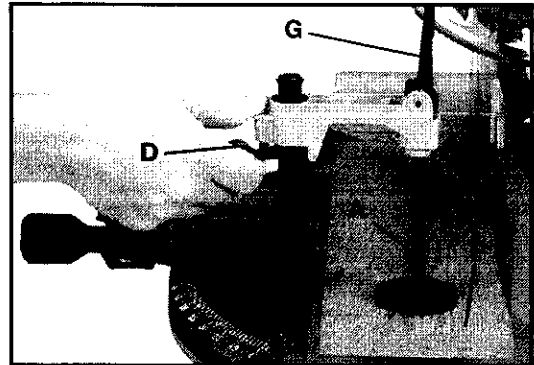

Fig. 21
2. During operation, lower clamp (A) Fig. 21, by depressing lock lever (D), until the bottom of the clamp (A) lightly contacts the top of the workpiece (F). **IMPORTANT: Cam lever (G) should be in "UP" position when the clamp is lowered on the workpiece.**